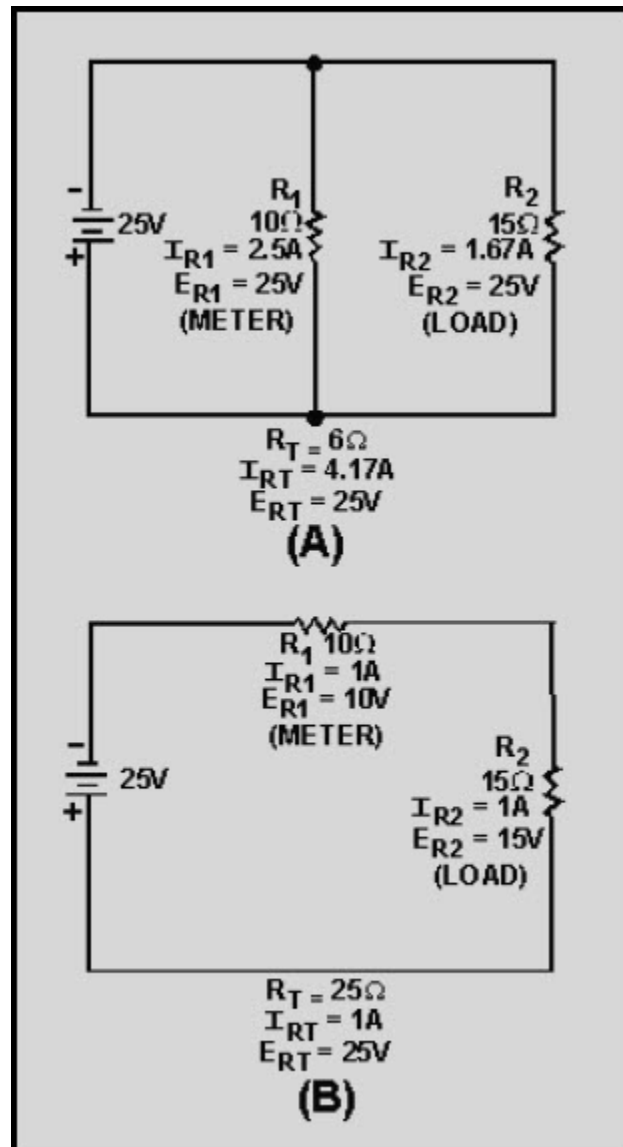

Figure 1-25 Current and voltage in series and parallel circuits
While ammeters are always connected in series, voltmeters are always connected in parallel. Figure 1-25 (and the following figures) use resistors to represent the voltmeter movement. Since a meter movement can be considered as a resistor, the concepts illustrated are true for voltmeters as well as resistors. For simplicity, dc circuits are shown, but the principles apply to both ac and dc voltmeters.
Figure 1-25(A) shows two resistors connected in parallel. Notice that the voltage across both resistors is equal. In figure 1-25(B) the same resistors are connected in series. In this case, the voltage across the resistors is not equal. If R_1 represents a voltmeter, the only way in which it can be connected to measure the voltage of R_2 is in parallel with R_2 , as in figure 1-25(A).